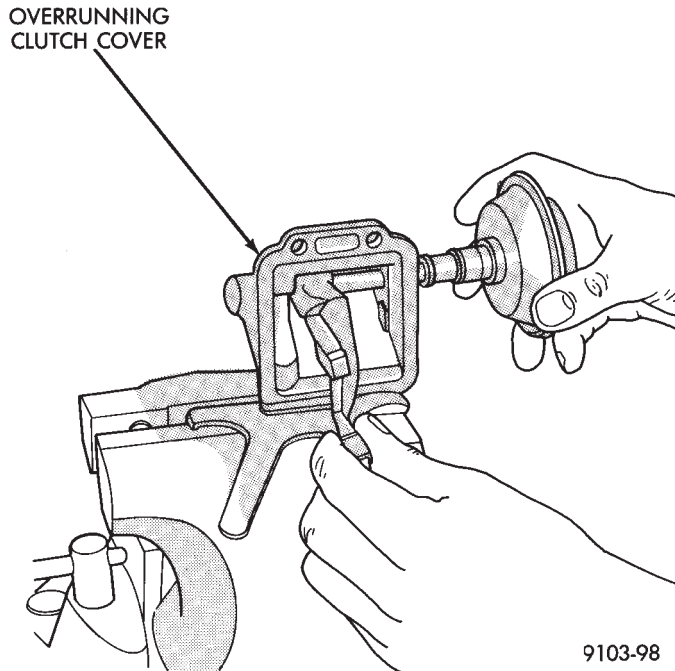

Fig. 4 Shift Fork Removal
- (7) Holding the overrunning clutch shift fork, slide shift motor out of housing (Fig. 4).